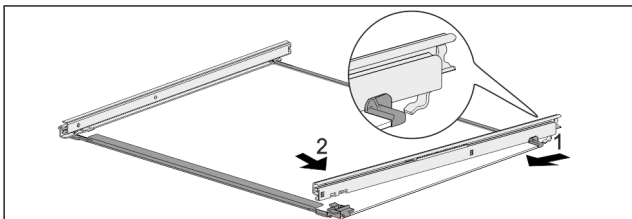

Fig. 126 Glass shelf with rails
- ▶ Hook in rail at the back. Fig. 126 (1)
- ▶ Hook in rail at the front. Fig. 126 (2)